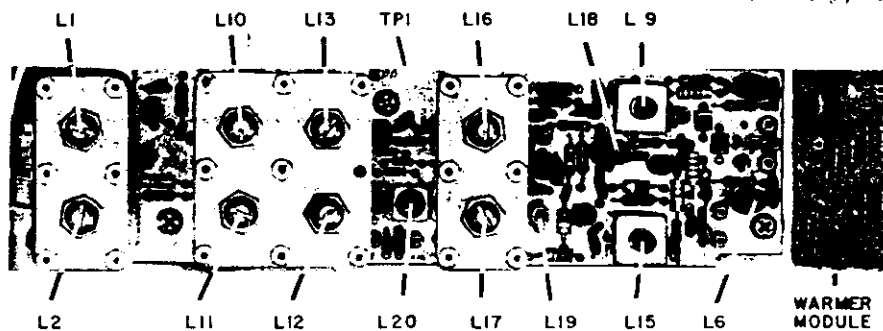

Fig. 6-4
3. Connect the RF millivolt meter to test point TP1 of the front end, and tune L9, L15, L18, L19, L17 and L16 (fig. 6-4) for maximum voltage.